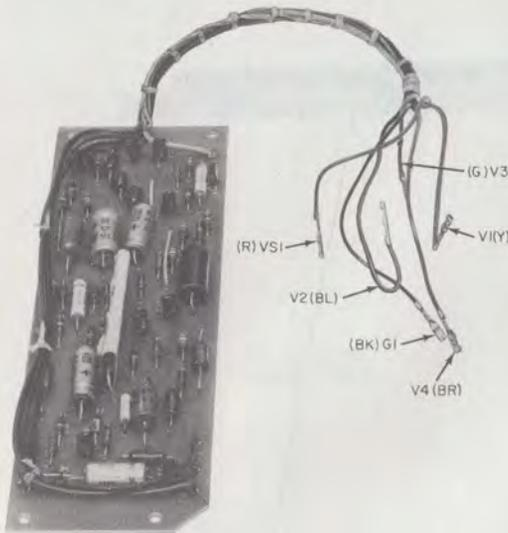

Fig. 4—KS-20721, List 12 Voice Control
- Control, Voice, KS-20721, L12 (Fig. 4) (if required for field installation)
2.04 The List 12 voice control (Fig. 4) consists of a speech detector and a 13-second timer that is kept reset by pulses from the speech detector when voice signals are present on the telephone line. In the absence of speech signals, the timer will time out in approximately 13 seconds disconnecting the coupler from the line. However, the CO receiver off-hook tone generator will prevent operation of the List 12 voice control. An automatic volume limited (AVL) amplifier is part of the speech detector and provides a relatively constant -5 dBm speech level at 600 ohms to leads AVL and ground. The customer may use this AVL amplifier to drive a tape recorder, paging system, or other equipment. The List 12 voice control is required only with VCA RDY. The List 12 voice control is added to the List 1 coupler by providing option Y as shown in Table B.